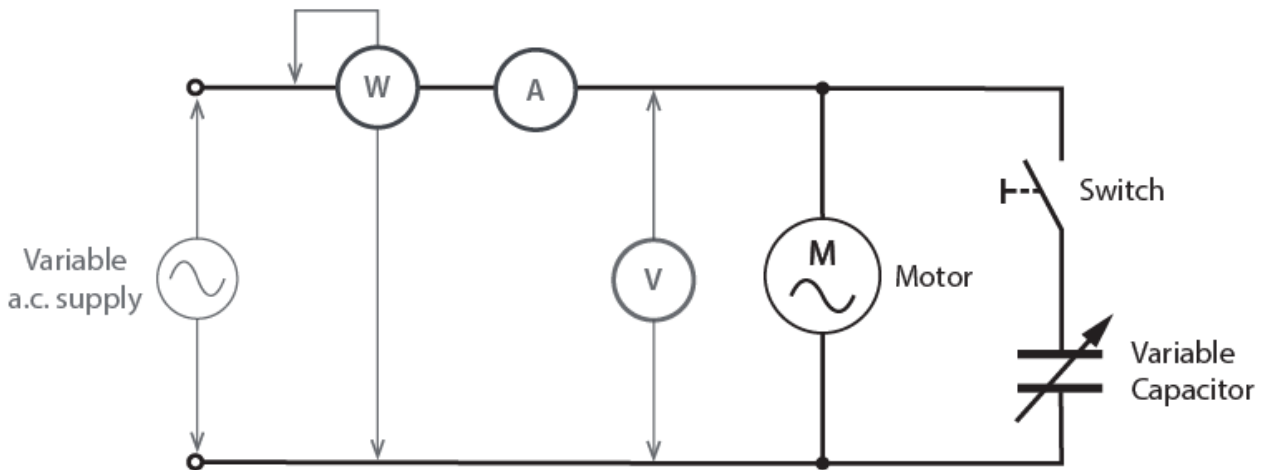

Figure 1
2.1.1 Connect up the circuit as shown in Figure 1 below: